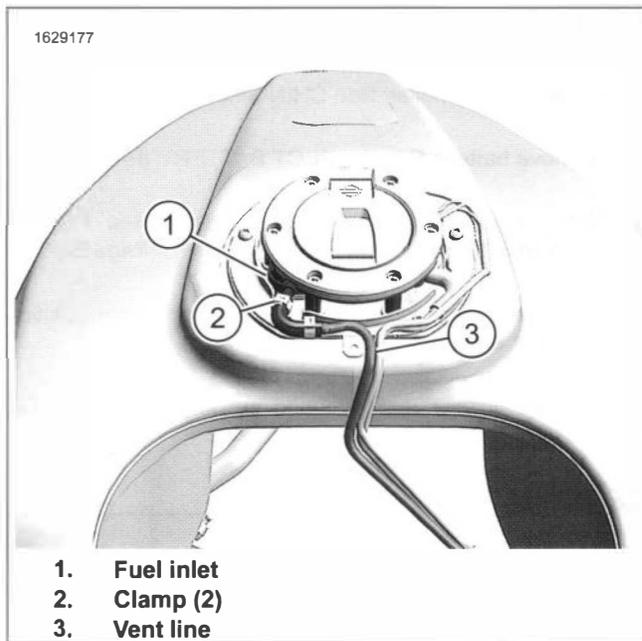

Figure 6-46. Vent Line to Fuel Inlet
3. See Figure 6-46. Remove clamp (2). Discard.
2. See Figure 6-46. Install hose on vent line (3).
3. Install hose on fuel inlet (1).
4. Install **new** clamps (2).